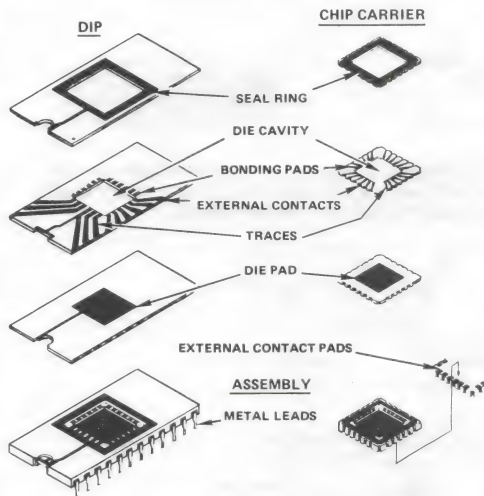

FIGURE 1. EXPLODED VIEW OF CHIP CARRIER AND DIP
Harris Semiconductor offers Leadless Chip Carriers (LCC) as a packaging option on various Analog integrated circuits. An LCC is a square or rectangular package for an Integrated Circuit (IC) that is manufactured in the same manner as a conventional side-braze dual-in-line package (DIP). The LCC is comprised of the cavity and seal ring section of a standard DIP and offers the user a means of achieving high density system configurations while retaining the reliability benefits of hermetic IC Packaging. Figure 1 provides a comparison of the construction of an LCC and a conventional side-braze DIP.